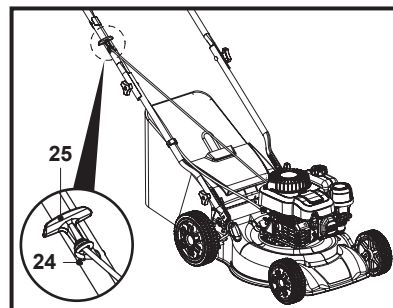

Fig. 12
3. Always rest the recoil starter handle (25) onto the hook (24) located on the righthand side of the upper handle bar (3) (Fig. 12) when the recoil starter is not operated.